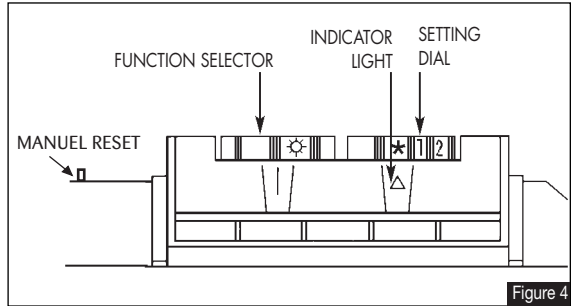

Figure 4
**Frost Protection :** *If you wish to protect a room from freezing in case of a prolonged absence, set your function selector to the ☀ and your thermostat dial to \* , equivalent to approximately 7°C (45°F) (see Figure 4).*
To set thermostat, adjust setting dial, on the control panel (Figure 4), to the desired comfort level (between 5 and 7).